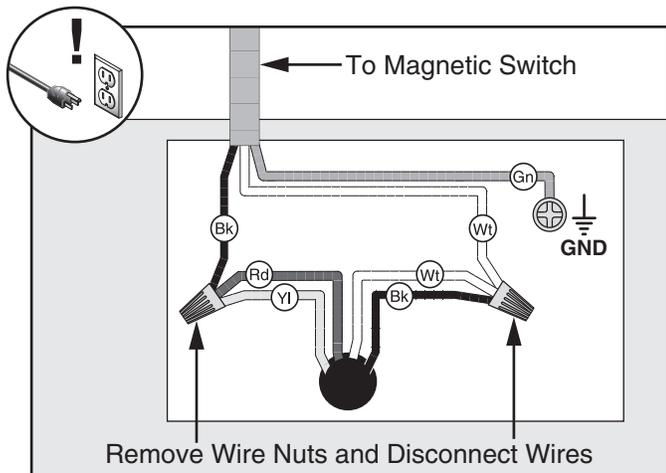

Figure 7. Motor junction box (pre-wired to 110V).
4. Open motor junction box, remove (2) wire nuts (see **Figure 7**), then disconnect wires.